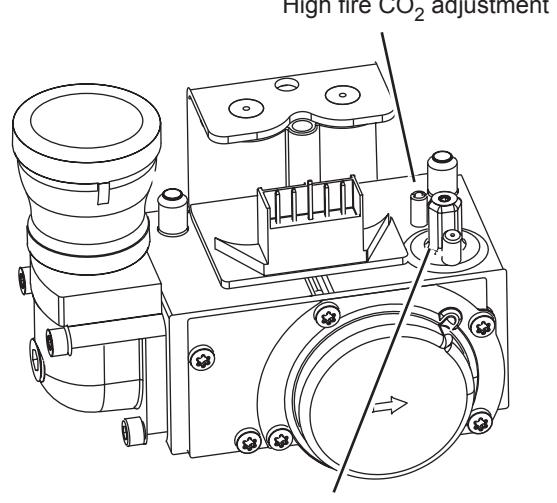

Fig. C2-1 - High- and low-fire adjustments on gas valve
The CO2 readings should be between the values shown in Table C2-1. If the CO2 is not within the range shown, adjustments may be made. To adjust the high fire CO2, locate the high fire adjuster screw as shown in Fig. C2-1. Slowly make adjustments in 1/16 of a revolution increments until the CO2 is within the range identified. For the high fire adjustment, turning the screw counter-clockwise (CCW) makes the mixture richer.
The CO2 readings should be between the values shown in Table C2-1. If the CO2 is not within the range shown, adjustments may be made. To adjust the low fire CO2, locate the low fire adjuster screw as shown in Fig. C2-1. Slowly make adjustments in 1/16 of a revolution increments until the CO2 is within the range identified. For the low fire adjustment, turning the screw clockwise (CW) makes the mixture richer.